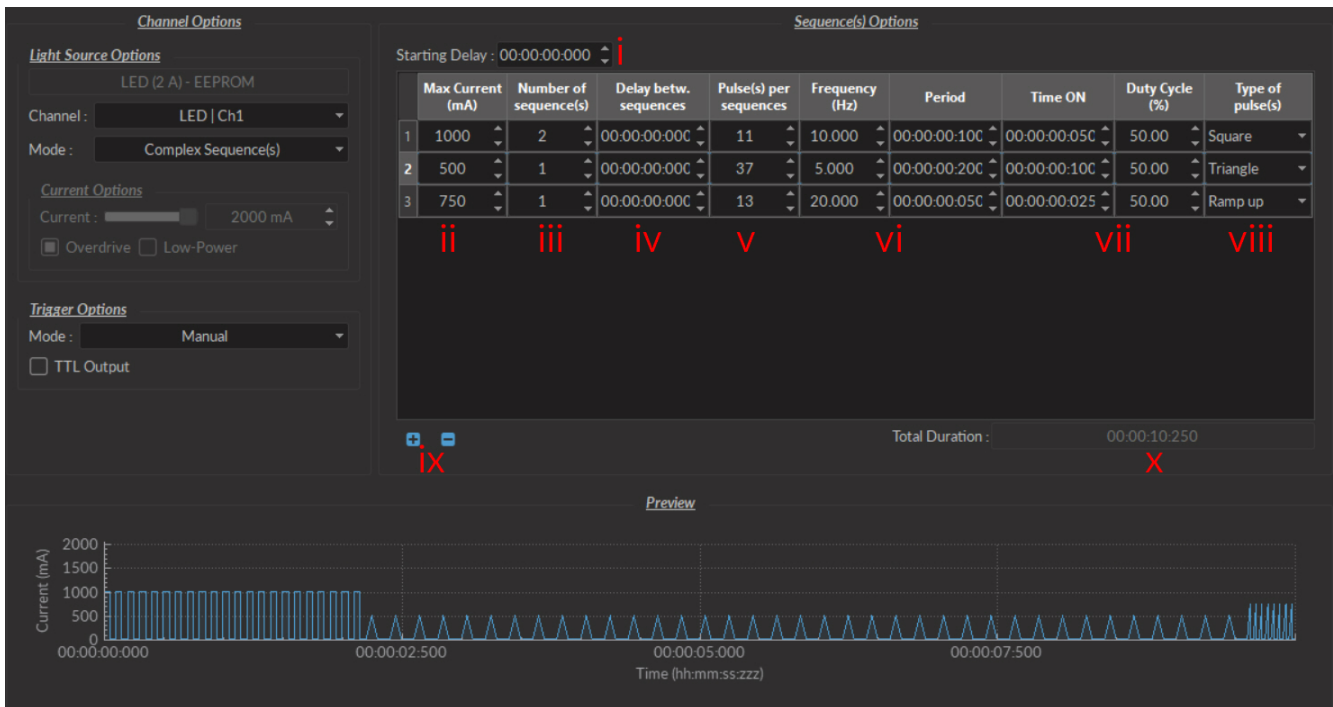
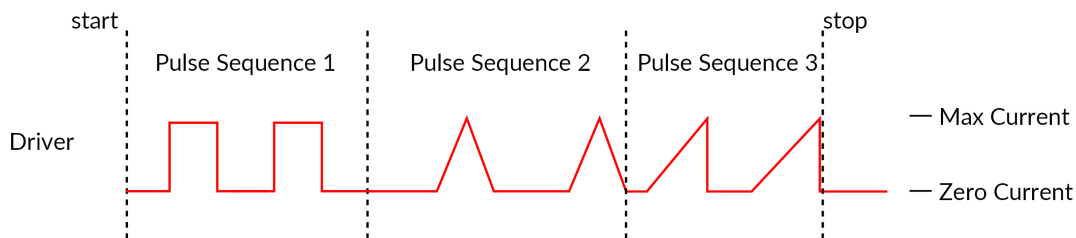

Figure 4.8: Complex Sequences Window
Figure 4.9: Internal Complex Mode Pulse Sequences
- i. The **Starting Delay** (Fig. 4.8) sets the delay (in hh:mm:ss:zzz format) before the first pulse sequence.
- ii. The **Max Current** (Fig. 4.8) sets the maximum current (in mA) for the given sequence.
- iii. The **Number of sequences** (Fig. 4.8) sets the number of times that the sequence will be repeated, with a minimum of 1.
- iv. The **Pulses per sequence** (Fig. 4.8) sets the number of pulses per sequence, with a minimum of 1.
- v. The **Delay between sequences** (Fig. 4.8) sets the delay (in hh:mm:ss:zzz format) between each sequence if the **Number of Sequences** is greater than 1.
- vi. The **Frequency/Period** (Fig. 4.8) sets the frequency (in Hz) or period (in ms) for the pulse sequence. These two values are linked, and when one is changed the other will adjust automatically. For example, a signal at 10 Hz (frequency) will output one pulse every 100 ms (period), whereas a pulse sequence at 0.5 Hz (frequency) will output one pulse every 2000 ms (period).
- vii. The **Time ON/Duty Cycle** (Fig. 4.8) sets the time (in ms) or the duty cycle (in %) for each pulse. These two values are linked, and when one is changed the other will adjust automatically. The **Time ON** must be lower than $(1/\text{frequency})+0.005$ ms, while the **Duty cycle** must be below 100 %.
- viii. The **Types of pulses** (Fig. 4.8) sets the pulse type. Pulses can be **Square**, triangular (**Triangle**), **Ramp up** **Ramp down** or **Delay** (Fig. 4.9). The **Delay** pulse type is used to create a delay between different sequence
- ix. The **Sequence controls** (Fig. 4.8) allow the addition (+) or removal (-) of sequences to the spreadsheet.
- x. The **Total Duration** (Fig. 4.8) displays the total time of the experiment. The different values can be *Inf* for infinite, a valid time value or *Err* if the **Time ON** value is greater than 1/frequency.